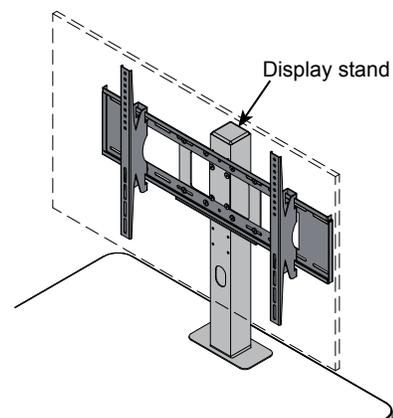

Figure 5
1. If you have the optional display stand, proceed with the installation at this time. (Instructions included with stand.) **Figure 5.**